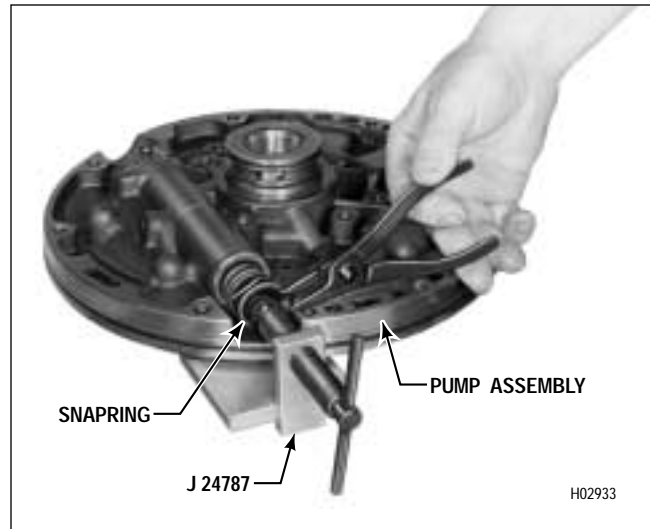

Figure 6-24. Removing (or Installing) Main-Pressure Regulator Valve
- **AT 1500 Series models do not have bushing 18. Therefore, for AT 1500 Series models, skip Step (7) and proceed with Step (8).**
- **For AT 500 Series models, do not remove bushing 18 unless replacement is necessary. Replacement bushing 18 requires machining and a runout check. Refer to Paragraph 6-9b(5) through (7).**
(7) If replacement is necessary, collapse bushing 18 and remove it from stator shaft 19 using care not to damage the bearing bore in the stator shaft.
(8) If replacement is necessary, remove plugs 20 and 22 and bearing 23 from support 21.
(9) Install main-pressure regulator valve remover tool J 24787 (Figure 6-24). Compress spring stop 25 (Foldout 7,B) and remove snapring 24.
(10) Remove spring stop 25, spring 26, and main-pressure regulator valve assembly 27 from the valve bore of front support 21.